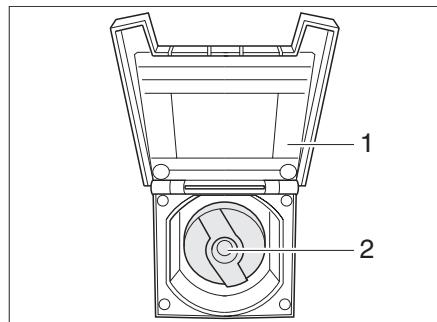

Fig. 176 Cap for the drinking water filler neck
- Open the cover flap (Fig. 176,1) of the drinking water filler neck.
- Insert the key into the locking cylinder (Fig. 176,2) and turn a quarter turn anticlockwise.
- Open the drinking water filler neck (Fig. 176).